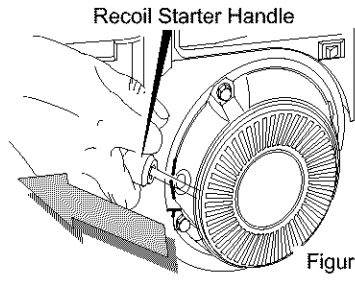

Figure 25
6. **(RECOIL START)** Rapidly pull the **starter handle** (see Figure 25). Do not allow the **recoil starter handle** to snap back, but allow it to rewind slowly while keeping a firm hold on the **starter handle**.